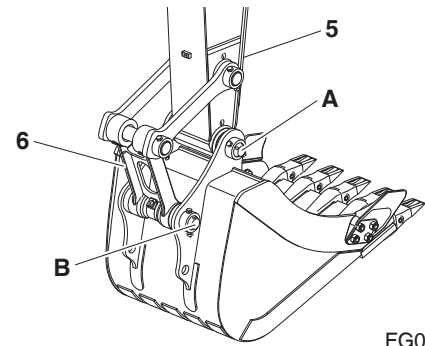
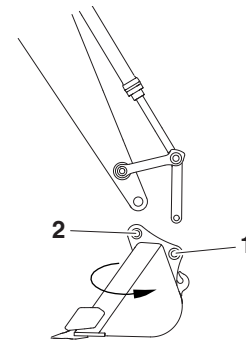

Figure 76
Figure 77
2. Remove double nut on the stopper bolt for arm pin (A, Figure 76) and link pin (B, Figure 76), remove bolt, pull out arm pin (A, Figure 76) and link pin (B, Figure 76), and then remove bucket.
4. Align arm (5, Figure 76) with replacement bucket hole (1, Figure 77), then align link (6, Figure 76) with hole (2, Figure 77), then insert greased coated pins (A, Figure 76) and (B, Figure 76) into hole (1, Figure 77) and hole (2, Figure 77) respectively.